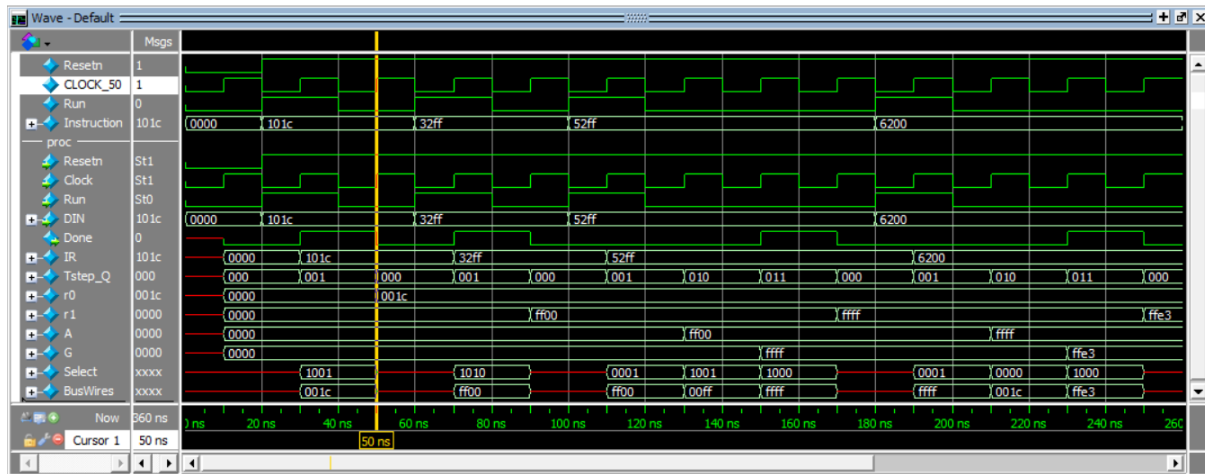

Figure 3: Simulation results for the processor.
- Set up the required subfolder and files so that your Verilog code can be compiled and simulated using the Questa or ModelSim Simulator to verify that your processor works properly. An example simulation result for a correctly-designed circuit is given in Figure 3. It shows the value `0x101C` being loaded into *IR* from *DIN* at time 30 ns. This pattern represents the instruction `mv r0, #28`, where the immediate value $D = 28$ (`0x1C`) is loaded into *r0* on the clock edge at 50 ns. The simulation results then show the instruction `mv r1, #0xFF` at 70 ns, `add r0, #0xFF` starting at 110 ns, and `sub r1, r0` starting at 190 ns.